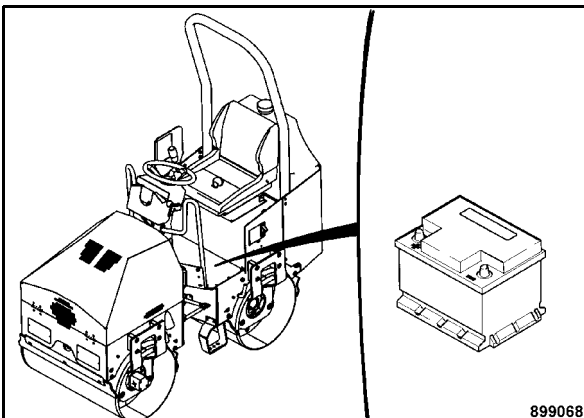

Fig. 87
- Remove the cover in the foot area (Fig. 87).